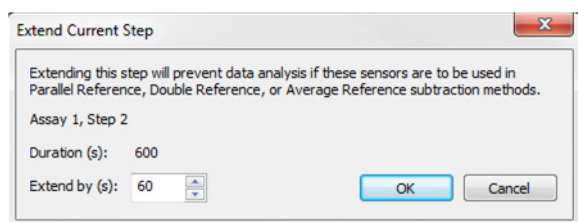

Figure 10-98: Extend Current Step Dialog Box
2. In the **Extend Current Step** dialog box (see Figure 10-98), enter the number of seconds to extend the step and click **OK**.